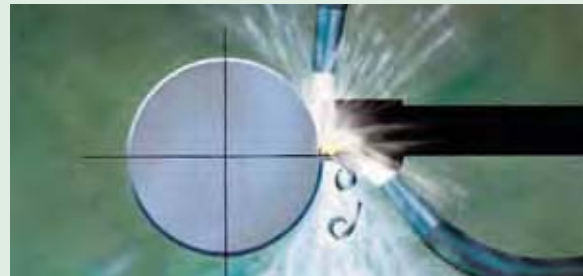

Figure 5
- Increase coolant flow or improve application technique, as shown in Figure 5.